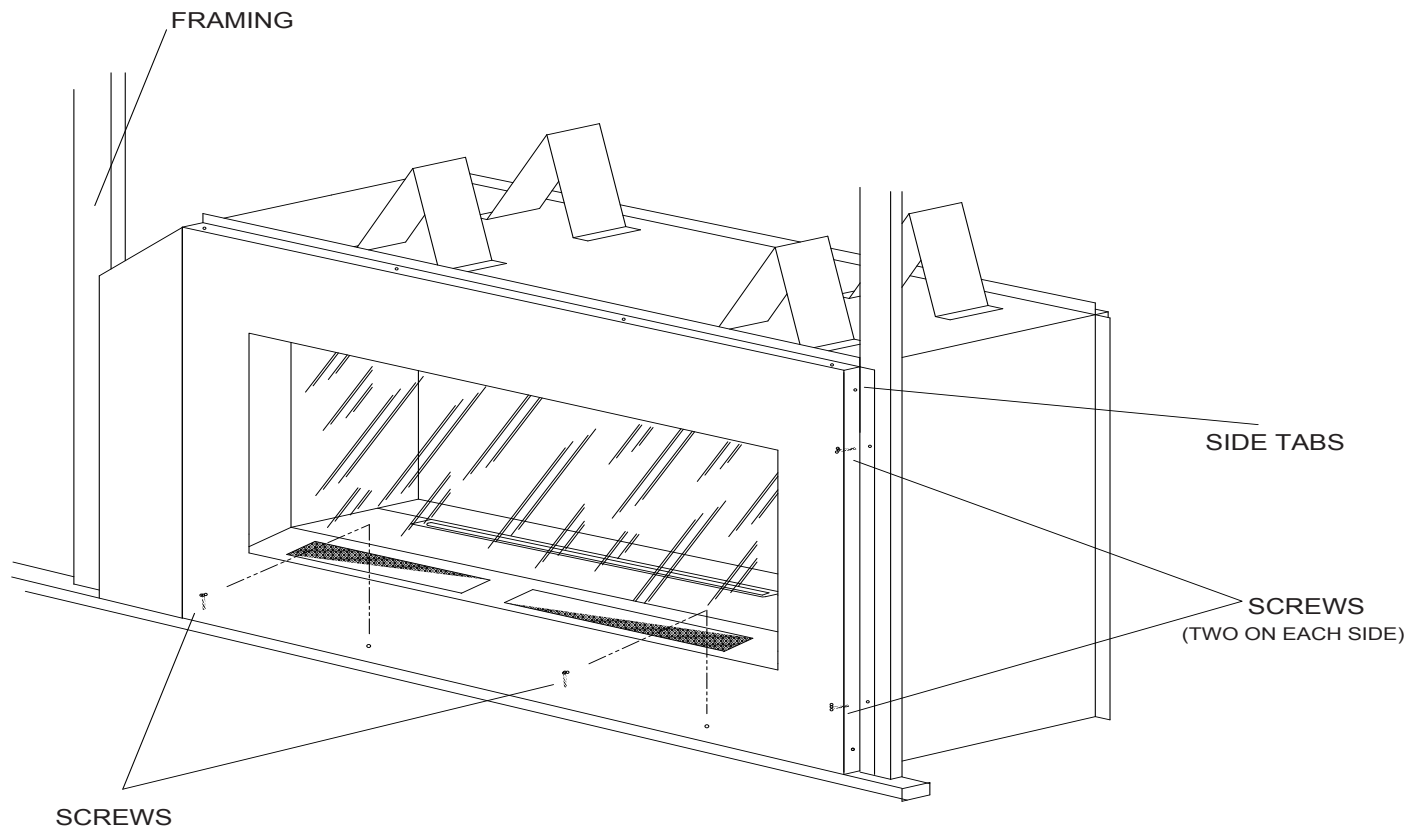

Figure 5 - Securing Fireplace to Floor and Framing Studs
The fireplace must be secured to the floor and/or to framing studs as shown in *Figure 5*. Use two (2) wood screws or masonry/concrete screws to secure fireplace to the floor. Use four (4) screws to attach fireplace to framing.